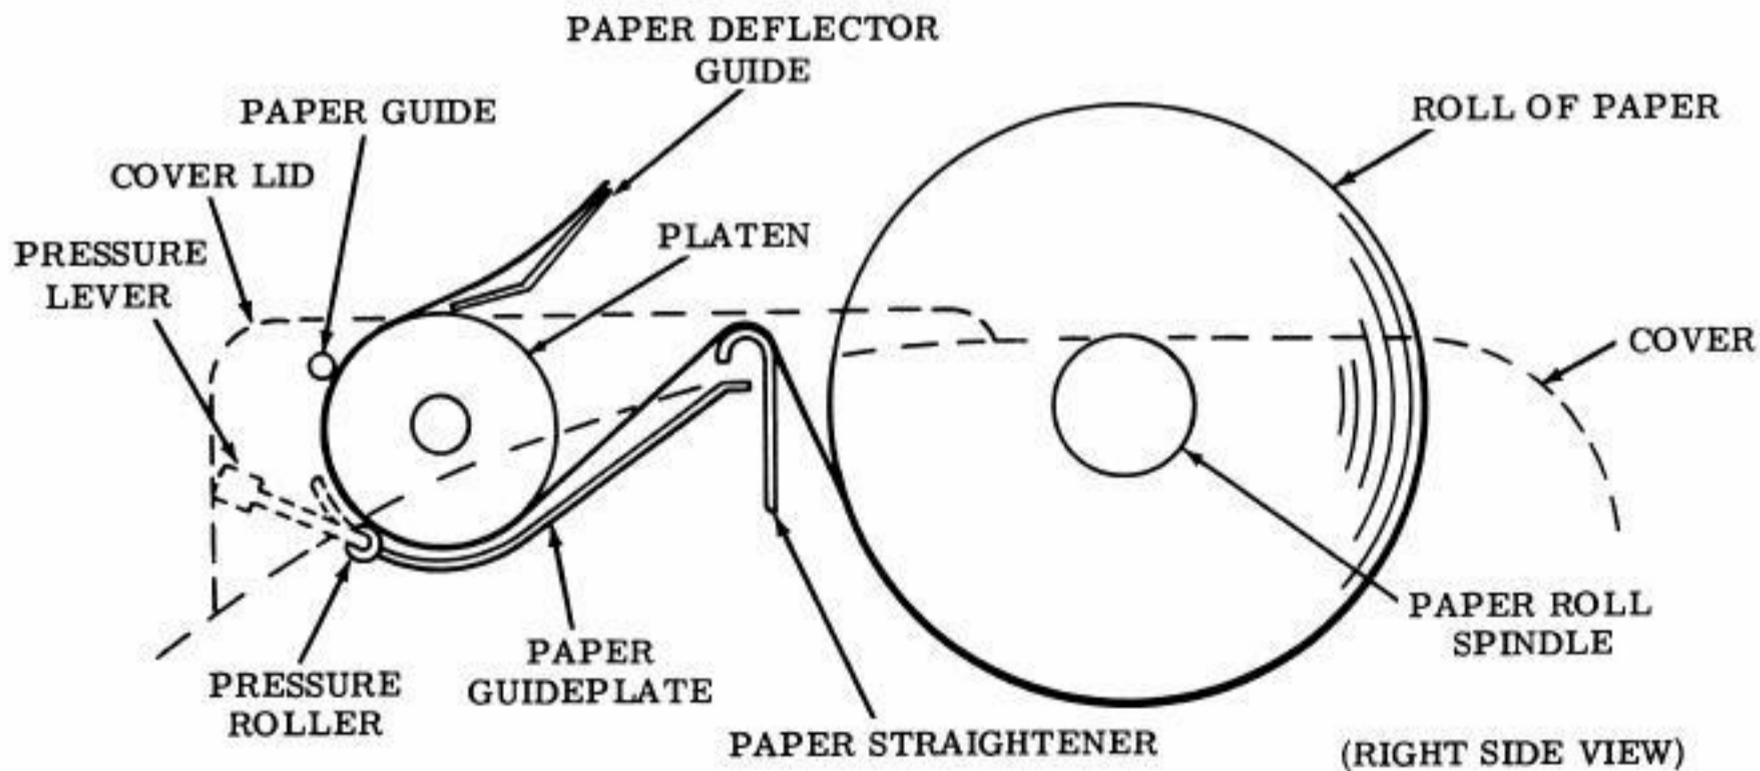

Figure 6 - Paper Threading — Friction Feed
- 3.11 Figure 6 illustrates paper threading for a friction feed typing unit.